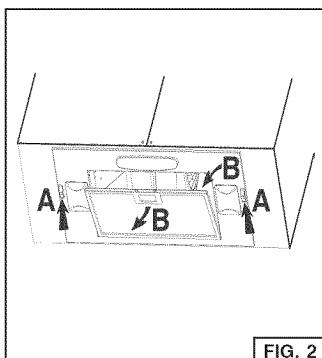

FIG. 2
1. Remove the grid by moving the 2 slide fasteners "A" forward (Fig.2). Push the filter latch in and tilt the filters downward and remove (Fig. 2B).
7. Replace the grid by moving the 2 slide fasteners "A" backward (Fig.2).
To remove the grease filter: push in on the metal latch tab. Tilt the filter downward and remove (Fig. 2).